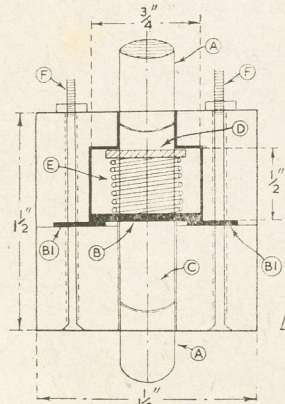

Fig. 1 — Lettered diagram section
The diagrammatic sketch shown in Fig. 1 gives the reader a complete picture of the assembled parts, consisting of a piece of $\frac{3}{4}$ in. tube $\frac{1}{2}$ in. in length (C). Plugs (A) made from dowelling of the same thickness as the tube, are necessary to eliminate the possibility of an electrical shock which would occur if the metal tube was extended to protrude at either end.